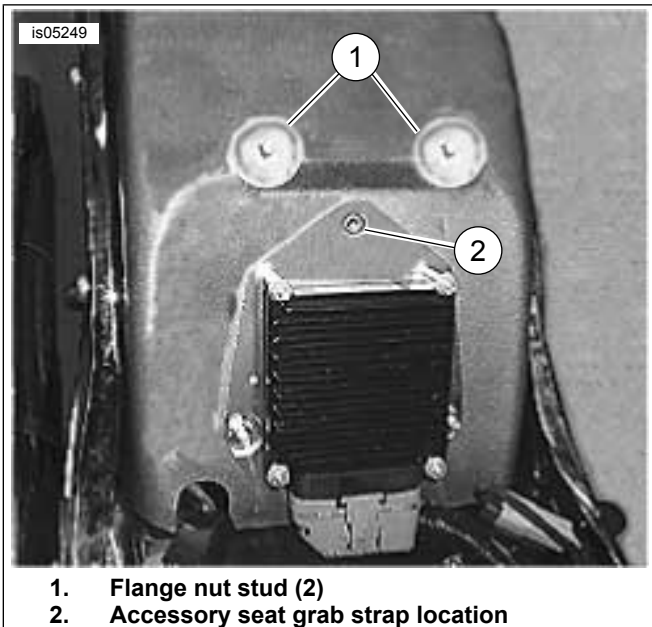
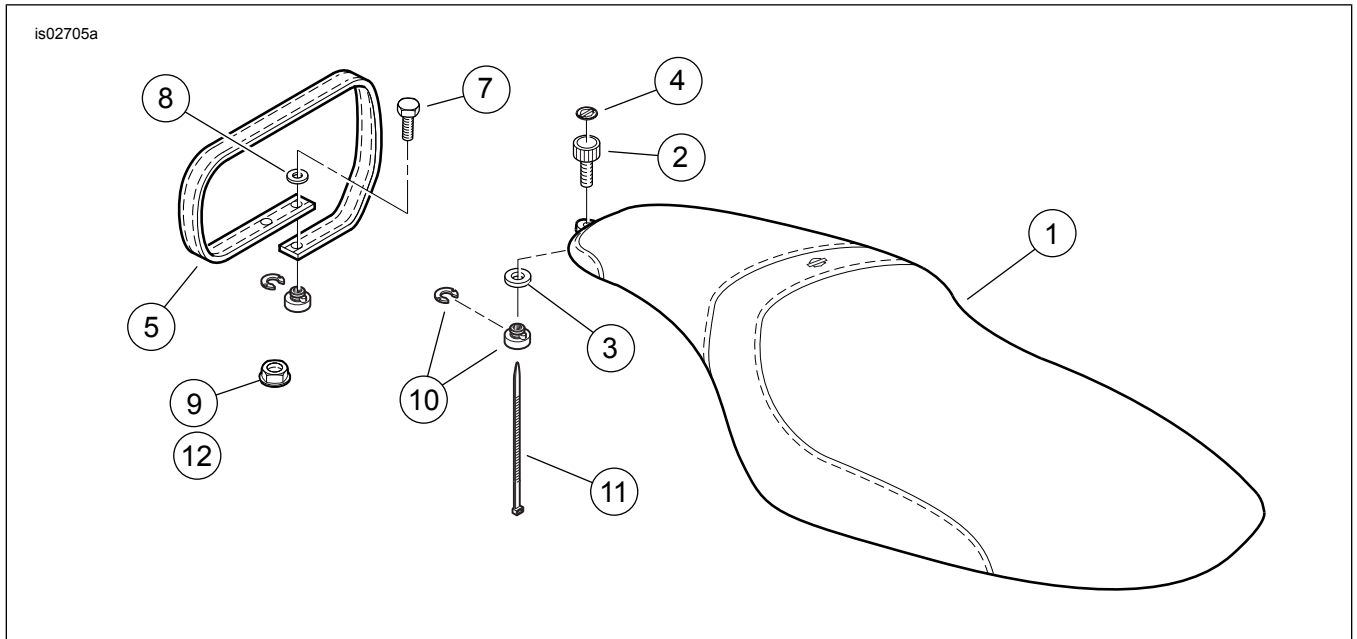

Figure 1. Grab Strap and Flange Nut Installation Location (FLSTF shown)
Figure 3. Service Parts, Softail Custom Seats
See Figure 3 and Table 2 for complete kit contents.
1. Remove original equipment (OE) seat and mounting hardware following the instructions in the Owner's Manual.
3. See Figure 3. Install two flange nuts (9) from the kit onto the OE grab strap mounting studs (as shown in Figure 1, Item 1).
4. See Figure 3. Obtain the Seat Nut Kit (10) and cable strap (11) from the kit, and install the nut and washer in the rearmost seat mounting hole in the rear fender.
3. Tilt the seat slightly and install the grab strap to the accessory seat grab strap location (as shown in Figure 1) with the screw (7) and washer (8) from the kit. Tighten securely.
5. Secure the seat to the fender with the knurled knob (2) and neoprene washer (3) from the kit.
1. See Figure 3. Install the grab strap (5) from the kit to the accessory seat grab strap location (as shown in Figure 1) with the screw (7) and washer (8) from the kit.
2. Slide the rear of the **new** seat (1) through the grab strap.
2. See Figure 3. Remove the liner from the adhesive backing of the Bar & Shield emblem (4). Rotate the emblem for best appearance, and apply the emblem to the center recess on the knurled knob. Apply even pressure to the emblem for one minute to verify proper adhesion.